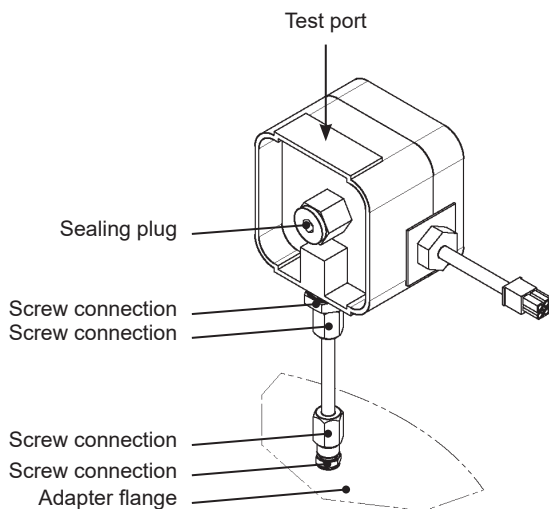

Fig. 64
- Leak-tightness at the adapter flange (Fig. 64)